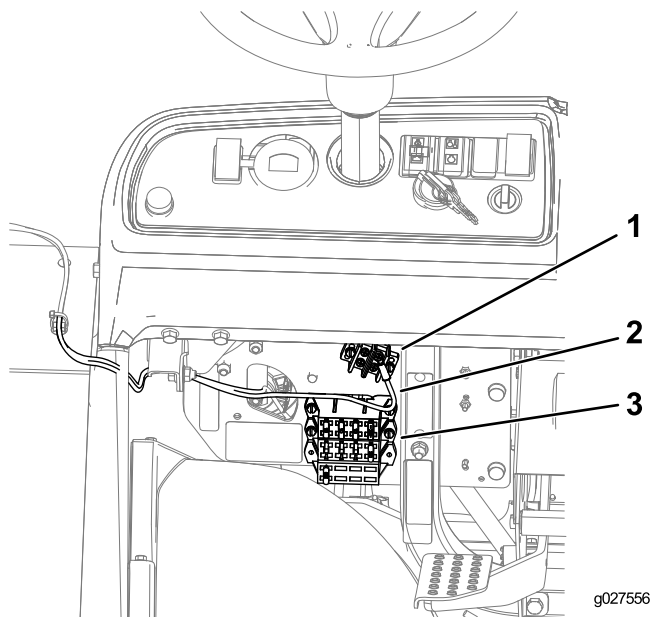

Figure 12
- For Workman MD/MDX/MDXD machines:** Connect the ring terminal on the harness to the grounding block and insert the fuse-block connector into an available fuse-block connection (Figure 12).